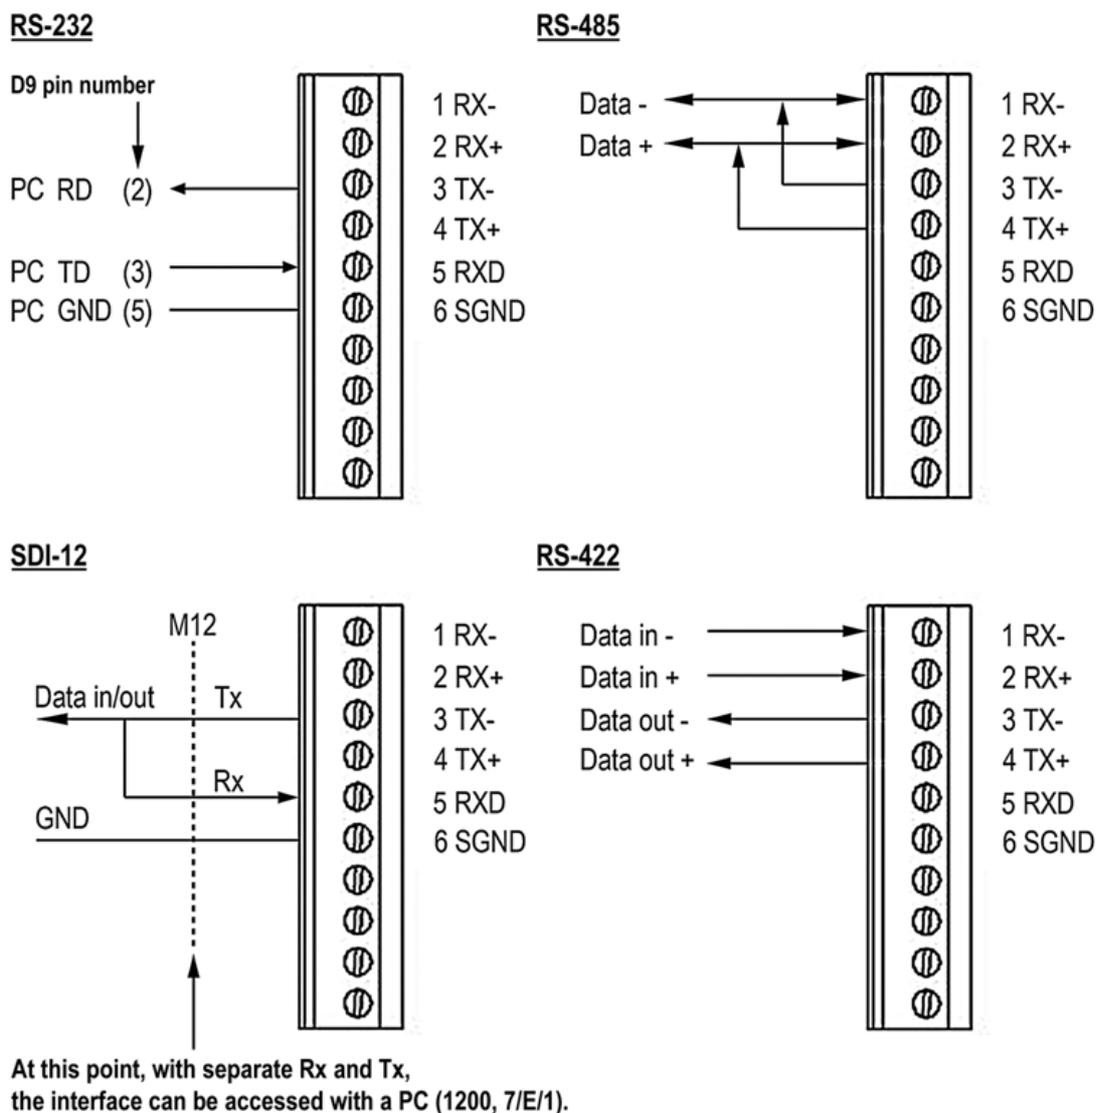

Figure 19 Data Communication Interfaces
- **SDI-12 Native mode** (M=S, C=1) has the lowest standby consumption, about **0.07 mA**. Note that it can also be used with RS-232 terminals (PC or equivalent), see the SDI-12 connection diagram in Figure 19 on page 41. In this case the commands must be in SDI-12 format, but no special line break signals are required. The SDI-12 mode is for polling only.